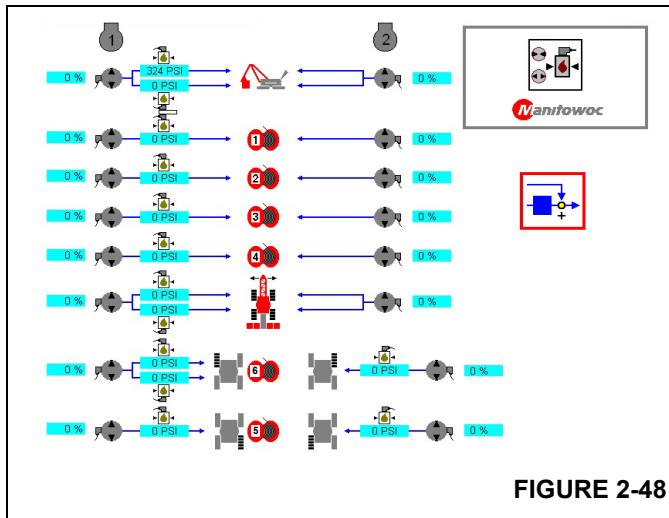

FIGURE 2-48
8. Then press  or  until the Pressure Sender Test icon appears as shown below (Figure 2-48).